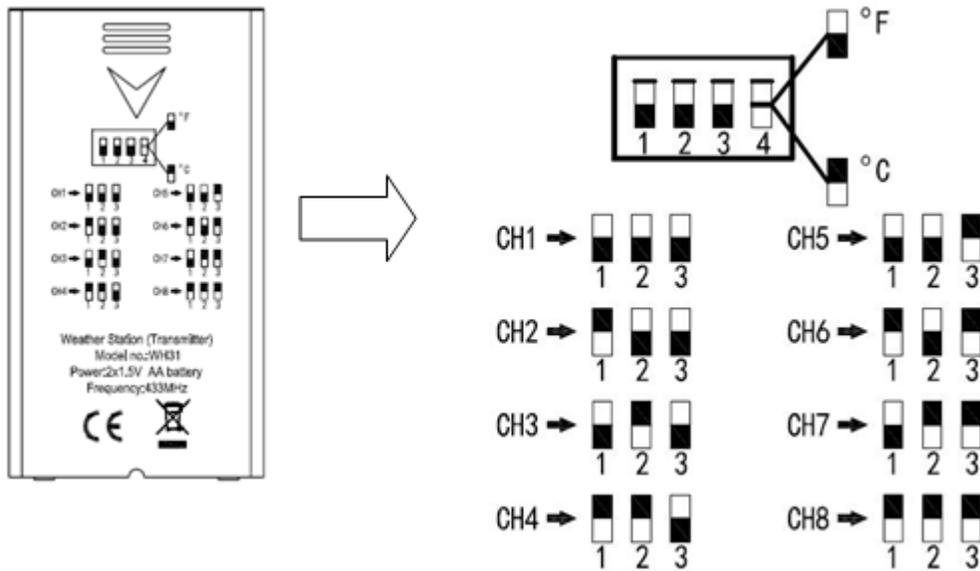

Figure 13
3. **Channel Number:** The WS-2000 supports up to eight transmitters. To set each channel number (the default is Channel 1), change Dip Switches 1, 2 and 3, as referenced in Figure 13.
4. **Temperature Units of Measure:** To change the transmitter display units of measure ($^{\circ}\text{F}$ vs. $^{\circ}\text{C}$), change Dip Switch 4, as referenced in Figure 13.